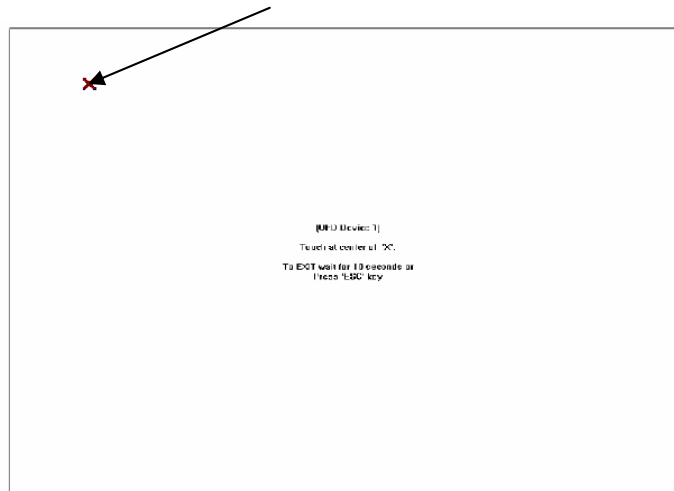

Figure 6
16. Make contact with the "X" markings on the screen. Be sure your stylus or finger is centered on each "X" point See Figure 6